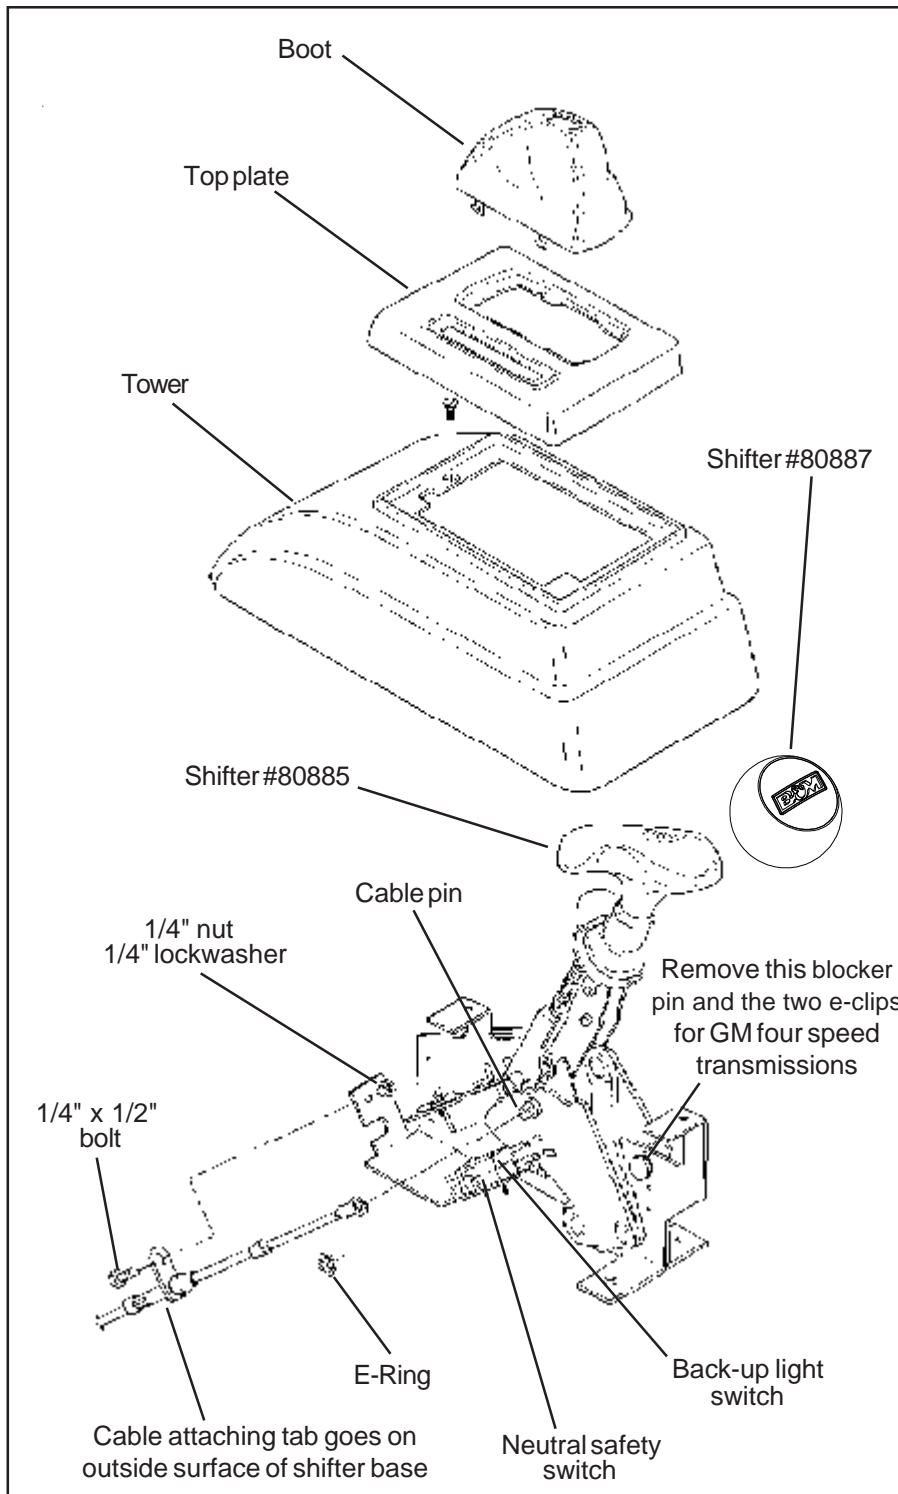

Figure 1
To use this shifter with a GM four speed automatic transmission (TH-700R4, TH-200 4R, 4L60, 4L80E or 4L85E) you will need to remove the three speed blocker bolt and nut. (See **figures 1 and 3.**) For the Ford AOD four speed transmission do **not** remove this bolt.
NOTE: If you are installing this shifter with a GM TH-700R4, TH-200 4R, 4L60, 4L80E or a 4L85E four speed automatic transmission you must remove the bolt and nut indicated in **figures 1 and 3.** Removing this bolt gives the shifter four forward positions rather than three. For Ford AOD four speed transmissions do **not** remove this bolt and nut, since this transmission has only three forward positions. Also do **not** remove the bolt and nut for three speed automatic transmissions.
STEP 5. Assemble Neutral Safety and Reverse light switches to bracket using two #4-40 x 1" screws and nuts, as shown in **figure 1.** **Beware,** Over tightening the switch attachment screws will crack the switch housings. Install Switch assembly on shifter. To adjust switches loosen screws and slide switches in or out as required, then retighten screws.
STEP 6. Install cable on shifter as shown in **figure 1.** The cable attachment tab should be bolted to the outside surface of the shifter base using 1/4" x 1/2" hex bolt, lock washer and nut. Install the E-Ring that secures the cable to the cable pin.
4, C-5 and C-6 transmissions, it will be necessary to hook up the Neutral safety/Backup light switches on the **B&M Hammer**. Locate and identify the Neutral safety (the engine will not crank unless these wires are connected together), and Reverse light wires. Disconnect Battery ground cable before beginning to wire the Neutral safety and Reverse light switches. Reroute the wires to the **B&M Hammer**. Strip 1/4" insulation off wires and install supplied slip-on terminals. Crimp terminals onto wires using a crimping tool or pliers. Connect the Neutral safety wires to the **LOWER** switch and the Reverse light wires to the **UPPER** switch, See **figure 1**. Tape terminal connections to prevent shorts. Reconnect battery ground cable, disconnect coil wire and set the parking brake. Check switch operation by attempting to start motor in each shifter position. **The starter must crank only when shifter is in the Park or Neutral position.** Check Backup light operation when the shifter is shifted to the Reverse position. Adjust switches if required. Reconnect coil wire. Go to **Step 27**.
'66-'68: The Neutral safety switch will continue to function normally. It will not be necessary to hook up the Neutral safety switch wires on the shifter. Disconnect the battery ground cable before wiring the Backup light switch. Locate the original Backup Light switch on the steering column or console shifter. Run these wires to the top switch on the **B&M Hammer**, See **figure 1**. Reconnect ground wire and check light for proper operation. Adjust switches on the shifter if required.